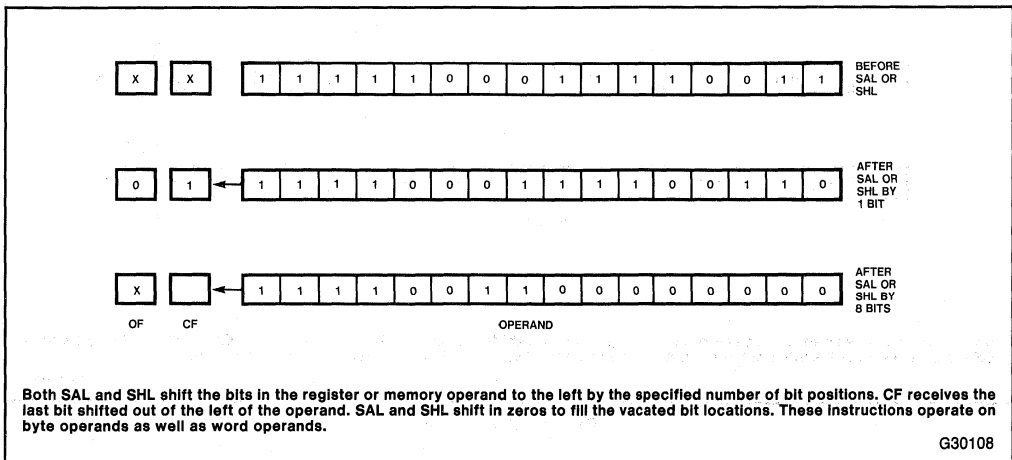

Figure 3-6. SAL and SHL
*SAL (Shift Arithmetic Left)* shifts the destination byte or word operand left by one or by the number of bits specified in the count operand (an immediate value or the value contained in CL). The processor shifts zeros in from the right side of the operand as bits exit from the left side. See figure 3-6.